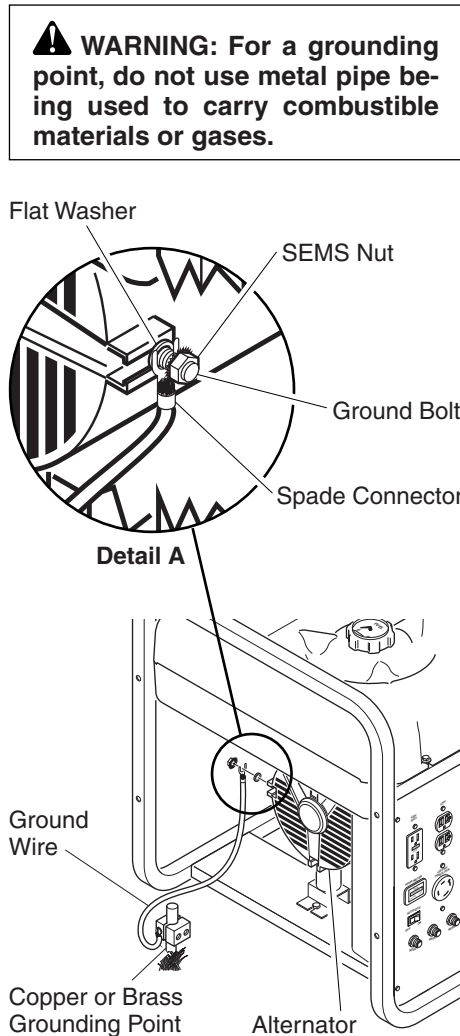

Figure 13 - Grounding Generator (MGH8500AIE Shown)
1. Locate ground lug on generator housing (see Figure 13).
3. Attach a spade connector to #10-8 stranded-copper ground wire. Place spade connector on ground bolt between flat washer and SEMS nut. Tighten SEMS nut (see Detail A, Figure 13).